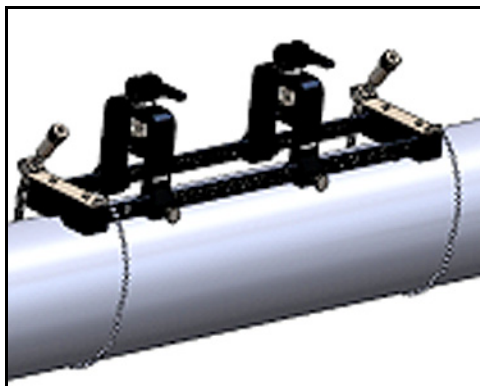

Figure 14: Fixture With Chains Installed
7. Repeat the previous steps to install the chain at the opposite end of the clamp-on fixture (see *Figure 14* below). The clamp-on fixture should be firmly mounted to the pipe, but it should still be loose enough to allow final alignment.